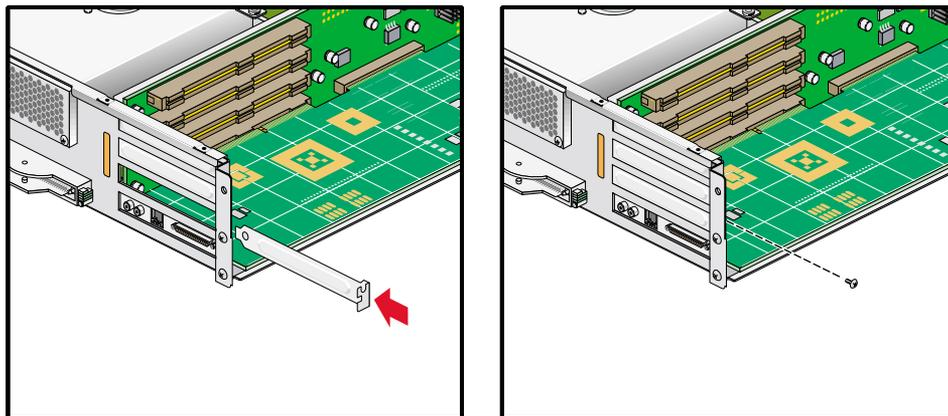

Figure 7-14 Replacing a Blanking Plate
11. Place a blanking plate to cover the slot where you removed the card, and screw in the retaining screw, as shown in Figure 7-14. After installing the blanking plate, if you have removed a card from one of the two lowermost slots, proceed to the next step. Otherwise, proceed to step 14.